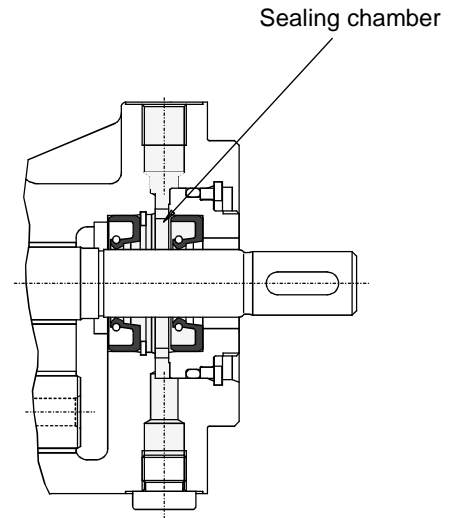

Fig. 10
- The sealing chamber (see Fig. 10) must be filled with a suitable barrier medium prior to initial operation of the pump.